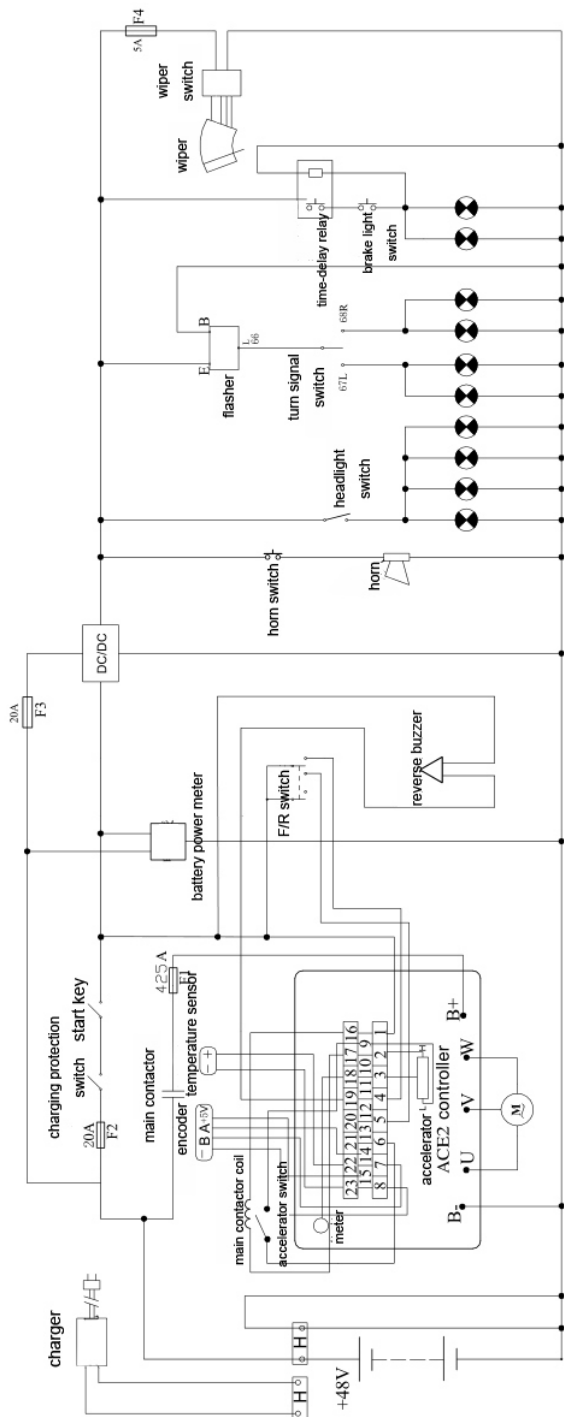

FIG.3
3)Wiring diagram for vehicle 48V with Zapi Controller ACE2 (FIG.3)